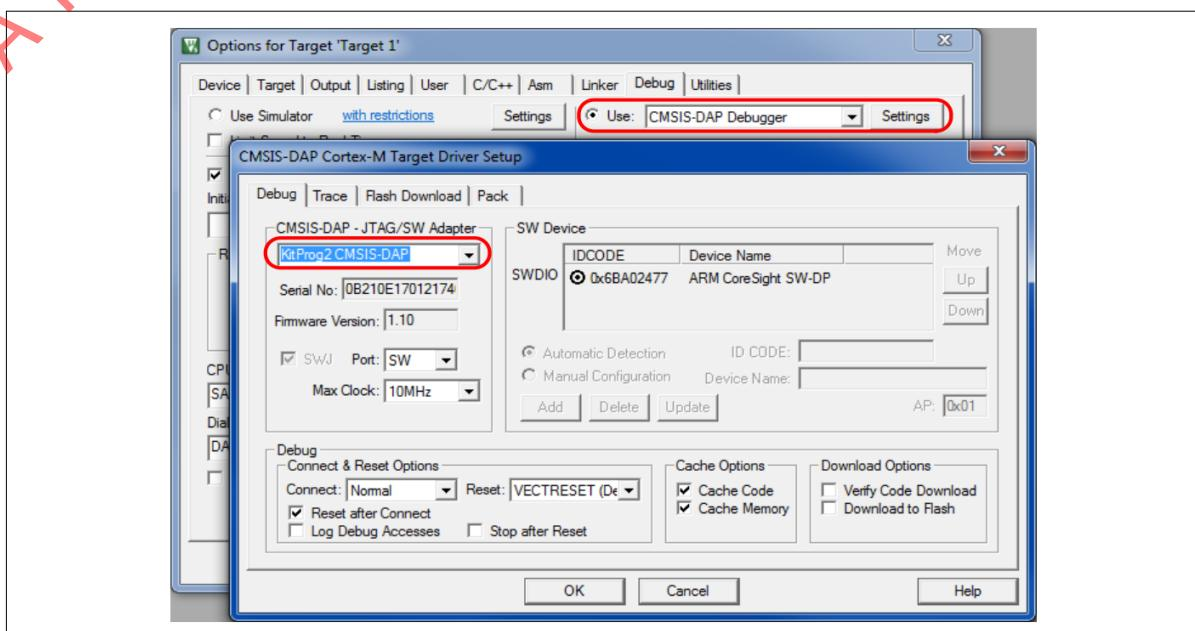

Figure 427 Project debug options
In the **Debug** tab, select **Use CMSIS-DAP Debugger**, as Figure 427 shows. Click **Settings**, select **KitProg2 CMSIS-DAP**, and confirm that all other settings are at the defaults shown. Click **OK** and go back to the Options dialog
- In the **Options** dialog, **Debug** tab, Target Driver Setup, select VECTRESET for the **Reset** option; see Figure 427.